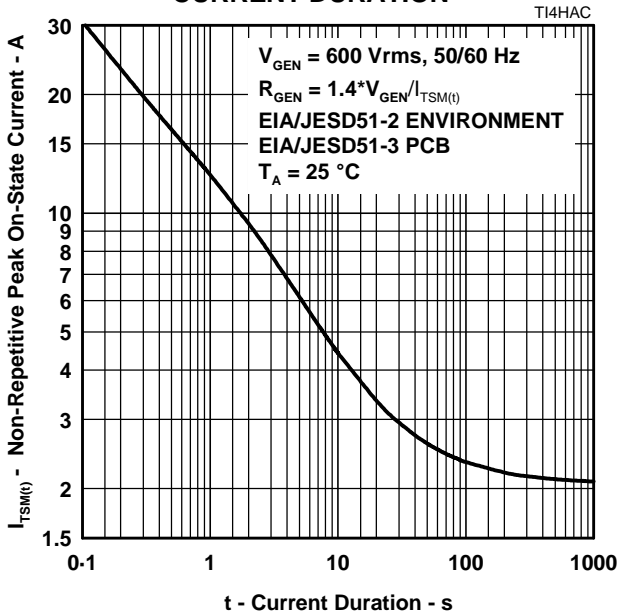

Figure 8.
5. EIA/JESD51-2 environment and EIA/JESD51-3 PCB with standard footprint dimensions connected with 5 A rated printed wiring track widths. See Figure 8 for the current ratings at other durations. Derate current values at $-0.61\%/\text{ }^\circ\text{C}$ for ambient temperatures above 25°C
The protector can withstand currents applied for times not exceeding those shown in Figure 8. Currents that exceed these times must be terminated or reduced to avoid protector failure. Fuses, PTC (Positive Temperature Coefficient) resistors and fusible resistors are overcurrent protection devices which can be used to reduce the current flow. Protective fuses may range from a few hundred milliamperes to one ampere. In some cases it may be necessary to add some extra series resistance to prevent the fuse opening during impulse testing. The current versus time characteristic of the overcurrent protector must be below the line shown in Figure 8. In some cases there may be a further time limit imposed by the test standard (e.g. UL 1459 wiring simulator failure).